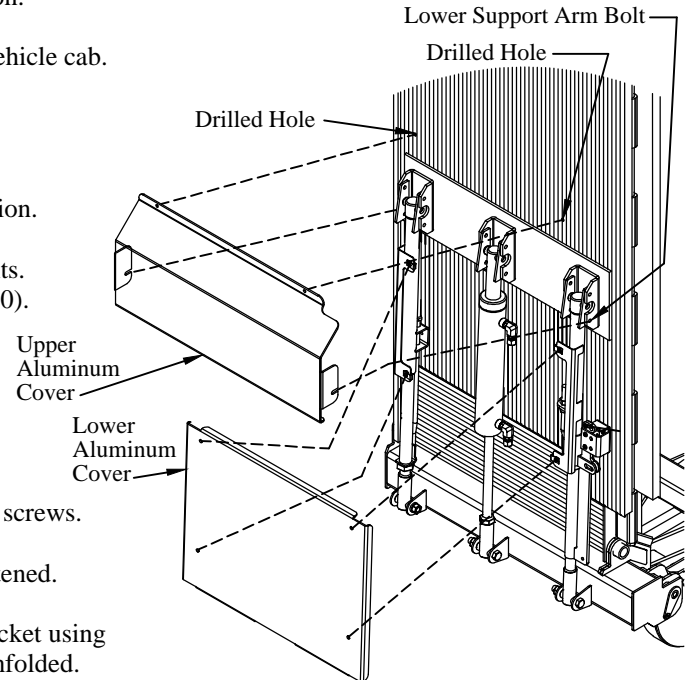

Figure 20: Aluminum cover installation.
7. **Install** the upper aluminum cover on the lower 5/16" support arm bolts. 5/16" flat washers should have been installed previously (Figure 20).